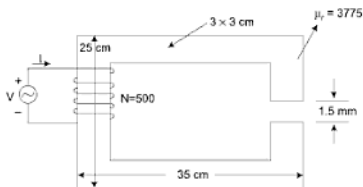

Fig. A1-6
- For the AC excited magnetic circuit of Fig. A1-6, calculate the excitation current and induced emf of the coil to produce a core flux of $0.6 \sin 314t$ mWb.